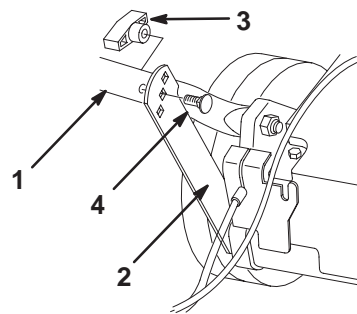

Figure 2
- Remove the four handle bolts and knobs from the lower handle section (two bolts have a flat cap and the other two have a contoured cap to fit the handle as shown in Figure 2).
- Swing the lower handle section back and the support brackets up, aligning the brackets with the holes in the handle (Fig. 2).
- Secure the handle to the support brackets with the two flat handle bolts and two knobs, using the height adjustment holes on the brackets that best fit your height (Fig. 2).